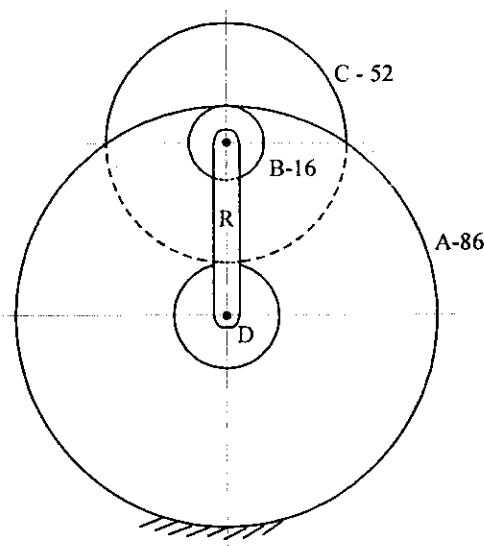

Fig. 7.41
1. In the epicyclic gear train shown in fig. 7.41, gear B and C are keyed to a shaft carried on a revolving arm R. Arm R turns about the axis of gears A and D. If all the gear teeth have the same pitch, find the number of teeth on D. If D rotates at 600 rpm clockwise, find the speed and sense of rotation of arm R.